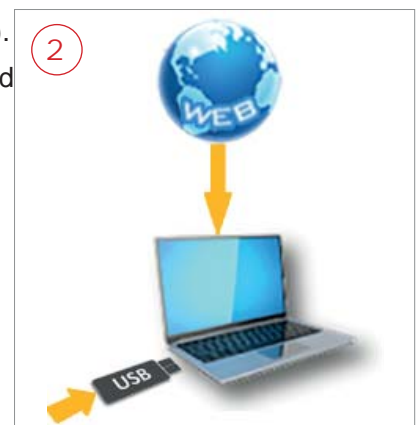

Fig. 19
- 2) Insert the USB PEN DRIVE into a PC connected to the internet (Fig. 19).